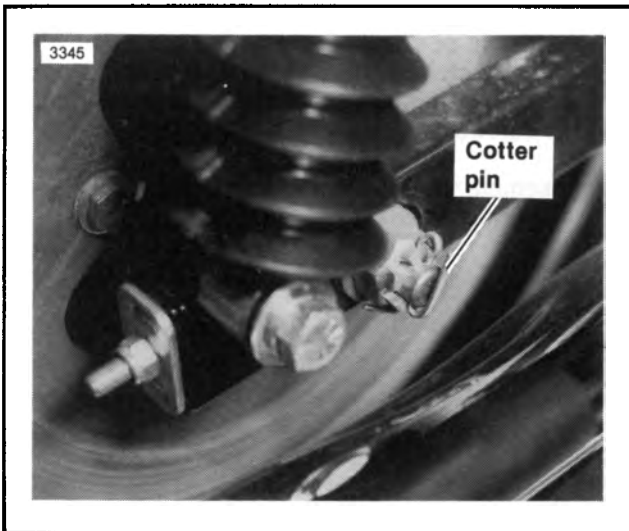

Figure 2-12A. Rear Axle with Cotter Pin — 1989 & Later
3. See Figure 2-12A. Remove cotter pin, axle nut, lockwasher (1988 and earlier) and washer (spacer) from right side of axle. Tap axle towards left side and remove.
7. Install cotter pin as shown in Figure 2-12A.